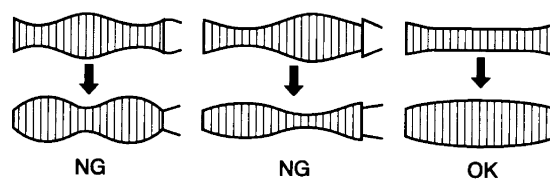

Fig. 2-1-81 Abnormal waveform variation
7. If the envelope varies like NG figures as shown in Fig. 2-1-81, perform the adjustment again.